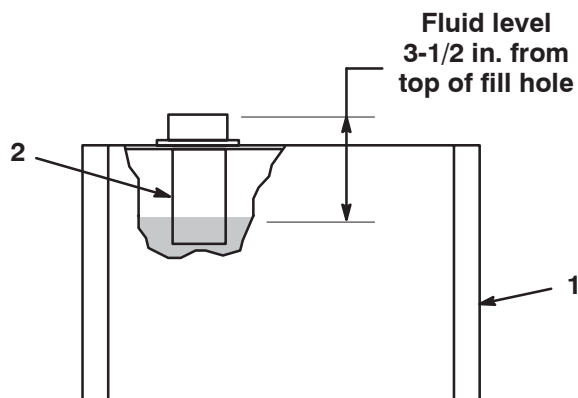

Figure 16
2. Remove the cap from the top of the reservoir and check the fluid level. The fluid should be approximately 3-1/2 in. (89 mm) below the top of the fill hole (Fig. 16).